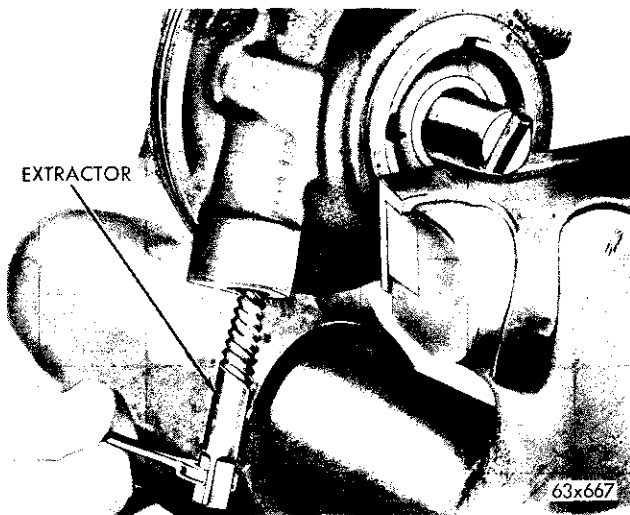
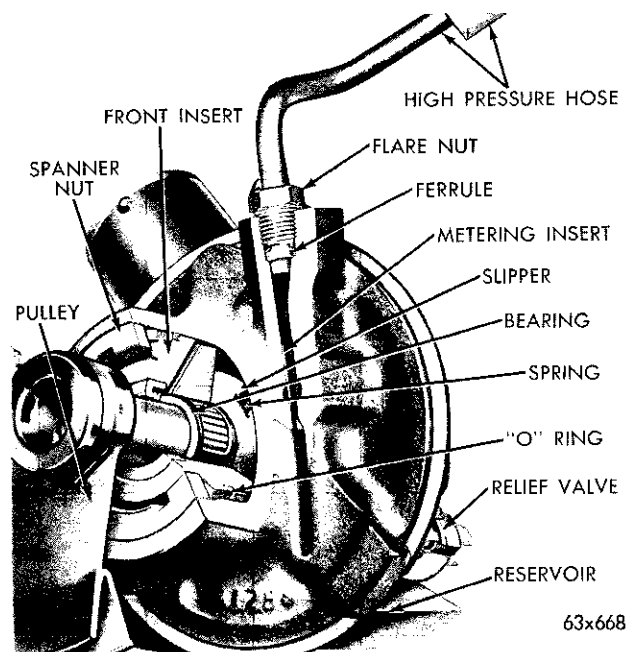

Fig. 8—Removing Brass Ferrule
Fig. 9—Pump Cross Section Showing Ferrule Installed
(3) Examine the pump housing in the discharge area to be sure that the housing has not been damaged by cross-threading or over-tightening the flare nut. If the housing is cracked or if the threads are damaged; the pump must be replaced.
(4) Examine the brass ferrule in the pump discharge fitting for nicks and scratches. The hose tubing flare should make an indentation in the ferrule which is concentric with the center hole and of approximate uniform depth all the way around. If the ferrule is damaged or nut improperly seated, replace the ferrule.
(5) Remove the pump from the vehicle.
(6) Clamp the pump in a vise with the discharge opening in the down position, this will prevent any chips from falling into the pump.
(7) Use a No. 4 screw-extractor (E-Z Out). Turn the extractor into the ferrule (Fig. 8), then rock the extractor slightly to remove the ferrule. Perform this operation carefully so as not to damage the threads on the housing.
(8) Clean out the discharge bore of any foreign material (brass chips, dirt, etc.).
(9) Center the new ferrule with the tapered end up in the housing bore. The ferrule is pressed into place by reinstalling the high pressure hose and tightening the flare nut to 24 foot-pounds. Figure 9 is a cutaway view to show the ferrule properly seated in the housing.